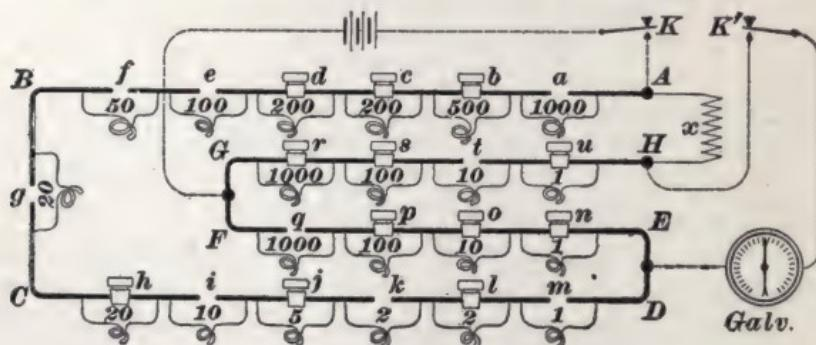

FIG. 44.
**EXAMPLE.**—The diagram in Fig. 44 represents a particular type of Wheatstone's bridge to which a battery and galvanometer are properly connected for measuring unknown resistances. An unknown resistance  $x$  is connected to the terminals  $A$  and  $H$ ; when the plugs  $a, e, f, g$ ,